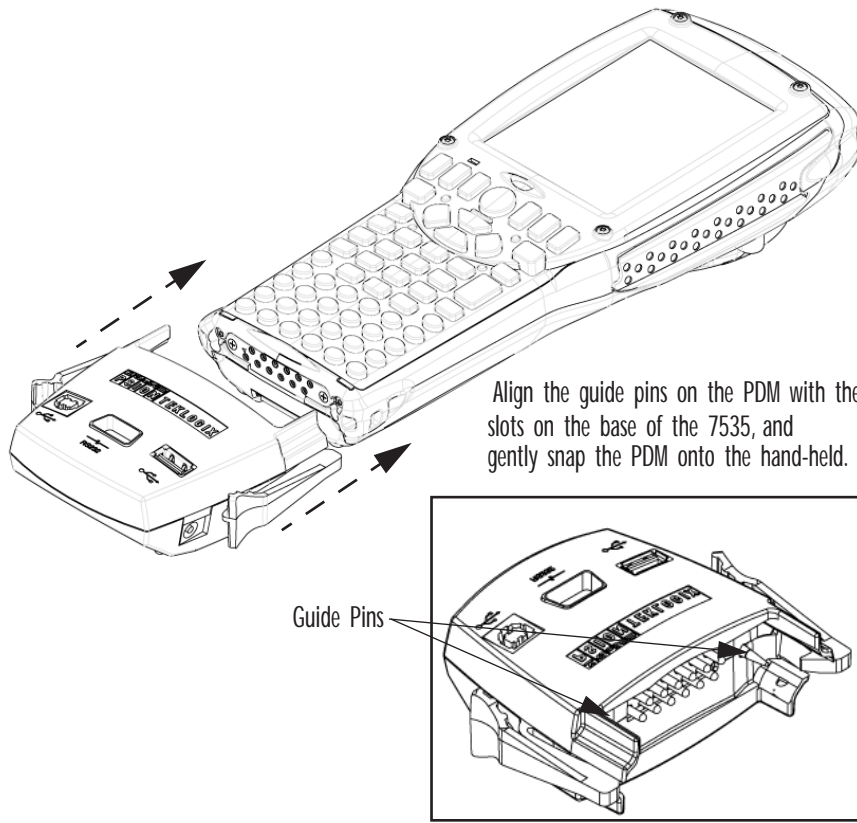

Figure 7.1 Attaching The PDM To The Base Of The 7535
- Gently snap the PDM into place on the base of the unit. Figure 7.1 on page 266 provides a visual representation of how to secure the PDM.